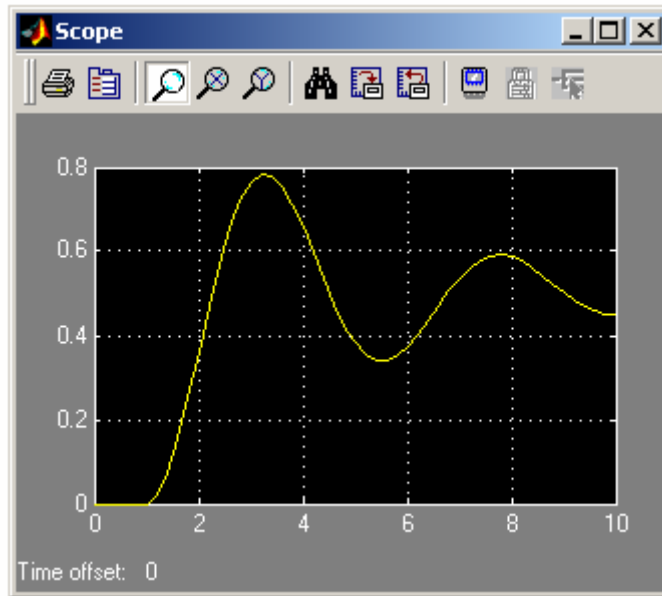

Figure 5: Simulated response of system from scope block
12. We would like to look at the response of the system using the scope. Double click on the scope block to open it up. Autoscale the plot so that you can see the response (the autoscale button looks like a pair of binoculars). You should see something similar to Figure 5.